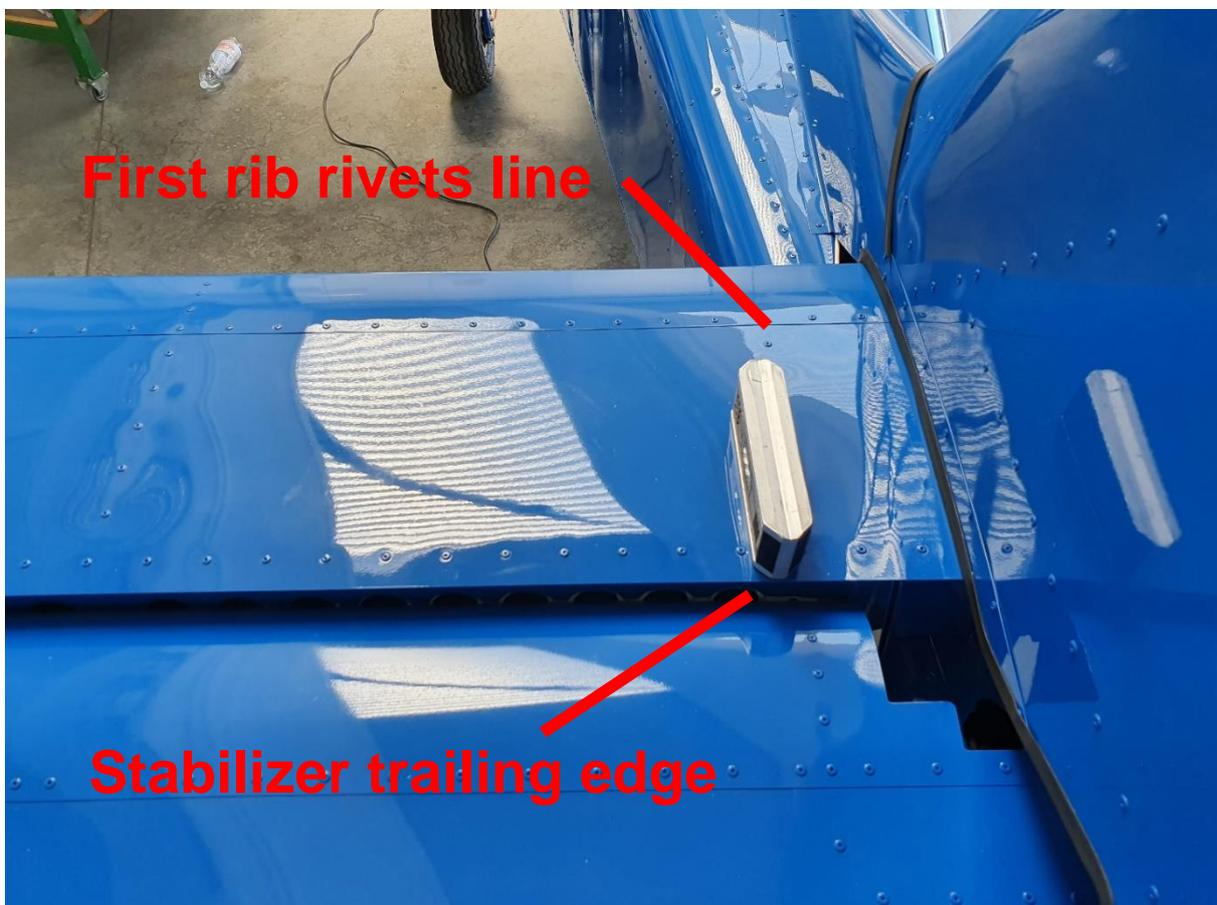

Figure 43: Digital spirit level position on Stabilizer for Zeroing
- Zeroing a digital level bubble (with  $0.1^\circ$  of resolution) in the upper skin of the Stabilizer in the position shown in *Figure 43*;